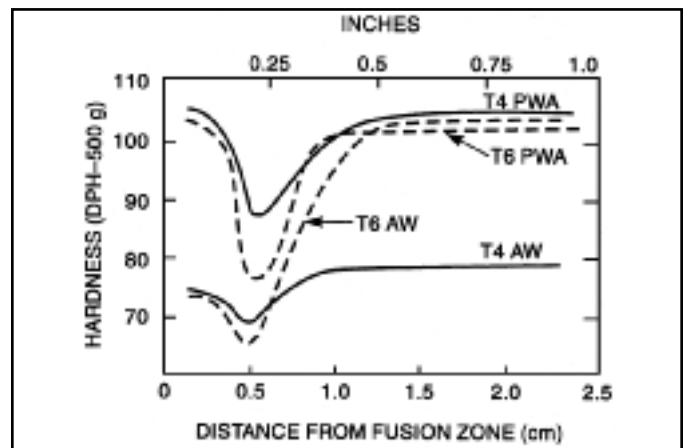

Figure 2: Hardness vs. Distance for 6061-T4 and -T6 in the as-welded and post-weld aged conditions.
There is no blanket statement that can be made about the welded strength of heat-treatable alloys. As previously stated, the weld will generally be weaker than the parent material. However, the welded properties will strongly depend on the temper of the material before welding and also on heat treatments performed after welding. Figure 2 shows a micro-hardness trace across a weld, starting at the center of the weld. The graph actually shows four curves representing what happens to material in the T4 and T6 tempers in the as-welded (AW) and postweld heat-treated (PWA) conditions. The following can be noted: